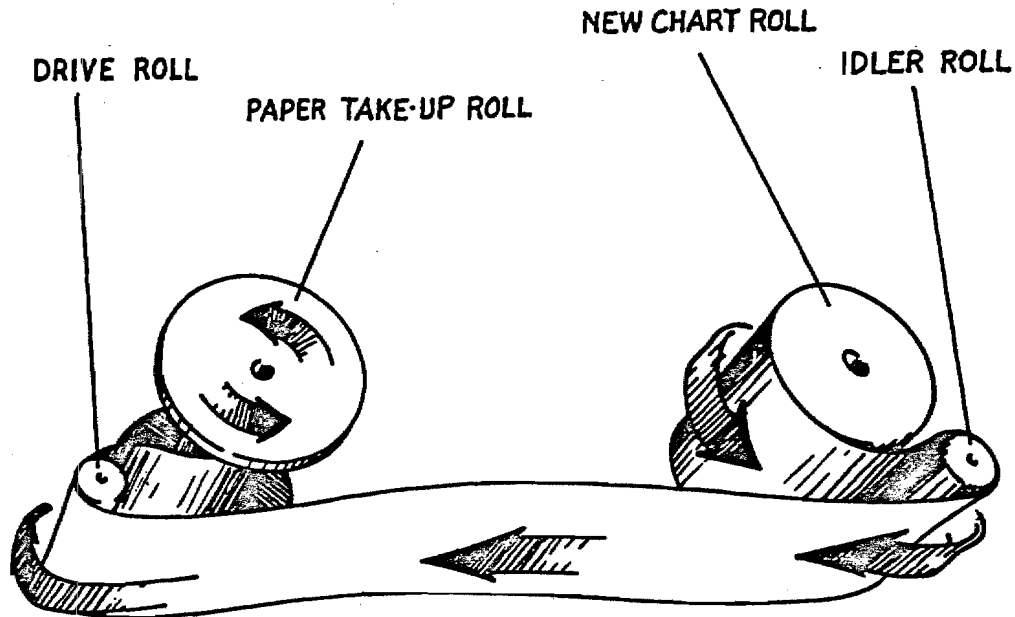

Figure 4-3 Chart Paper Threading
4.5.1 Chart Paper Removal Procedure (Figures 4-3, 4-5)